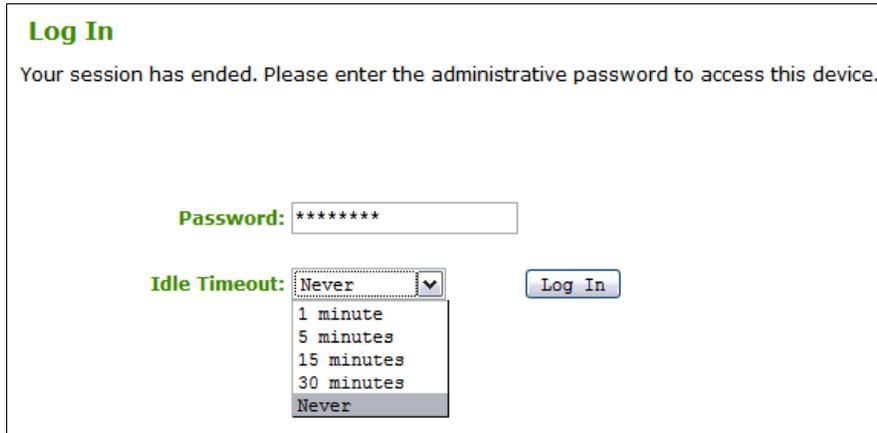

Figure 6-28 Web interface password panel
4. Enter the password (default is PASSWORD, with a zero not the letter O), choose the idle time, and click **Log in**. See Figure 6-28.